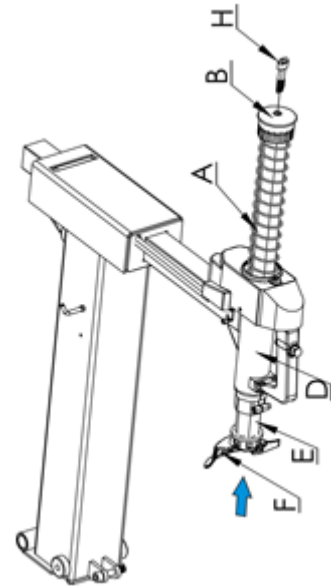

Fig. 7
- Remove the allenbolt (H, fig.7) and take of the knob (B, fig.7) and spring (A, fig.7).
- Tilt the column back and slide the (de)mountingarm (E, fig.7) through the opening in the horizontal arm. **Make sure the (de)mountinghead (F, fig.7) is in the wright direction!**
- Place the spring (A, fig.7) over the (de)mountingarm and hold it in place with the knob (B, fig.7) now place the allenbolt (H, fig.7) and tighten it firmly.